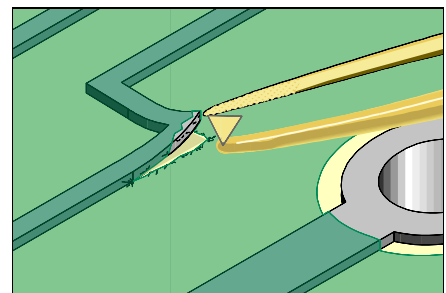

Figure 1: Cut out a piece of dry film epoxy and place it under the lifted conductor.
4. Cut out a piece of dry film epoxy that closely matches the size of the lifted conductor. Be careful not to contaminate the dry film epoxy with materials that could reduce the bond strength. (See Figure 1).
5. Place the dry film epoxy under the lifted conductor. (See Figure 1).